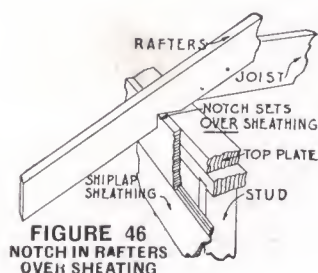

FIGURE 46
- (c) The notch in the rafter, where it sets over the wall plate, sets on the plate and over the **outside of the sheathing** (see Figure 46). Toe-nail the rafter into the plate.